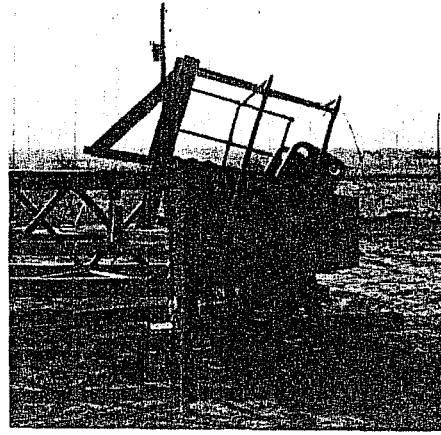

Figure 6.2-3
7. Dismantle the mast by removing the ladder and platform (Figure 6.2-3).